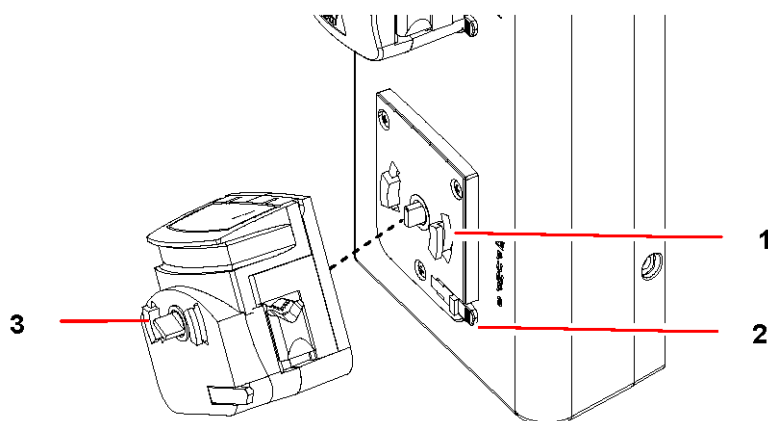
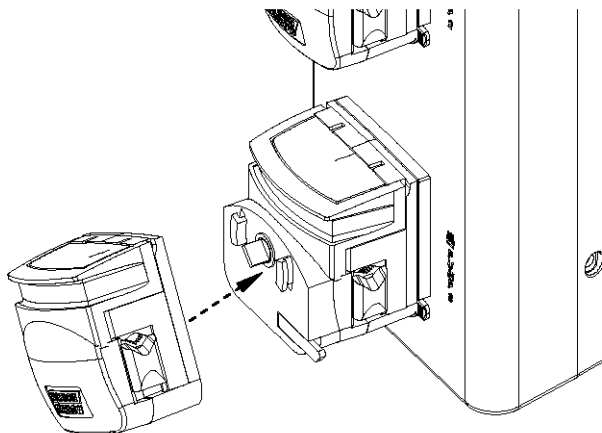

Fig. 77: Mounting Base Pump for Stacking
Fig. 78: Stacking the Pumps
To stack a pump (see Fig. 77 on p. 106) and (see Fig. 78 on p. 107):
1. Remove the standard pump that you wish to stack by pressing the pump release lever, turning the pump to the left until it clicks, then pulling it away from its baseplate mating surface. See baseplate (see Fig. 77 on p. 106).
2. Carefully align the center hole on the back of the special base pump with the “nose” of the baseplate screw face, also aligning the curved slots (like parentheses on either side of the hole) with their male counterparts on the baseplate screw face—you will need to tilt the pump a little to the left to catch all three mating surfaces (see Fig. 77 on p. 106).